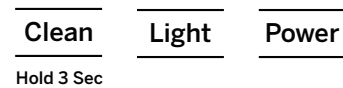

Figure 9
15. When complete, fill unit with fresh water and press the 'Power' button to start making ice. See Figure 9.